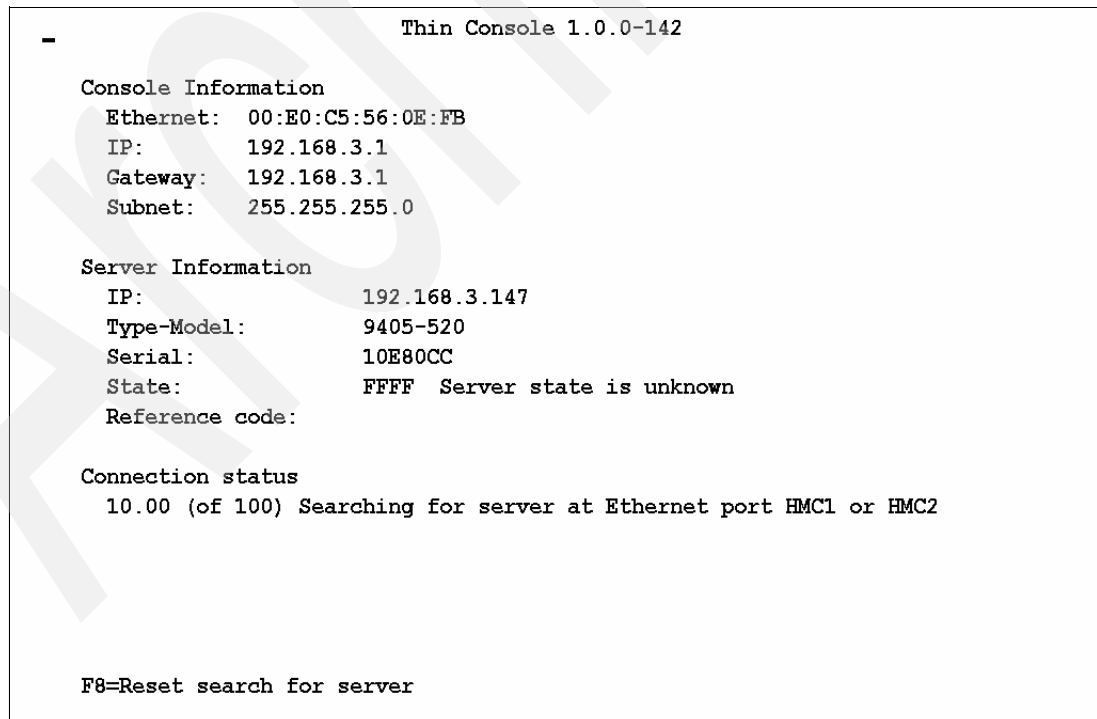

Figure 4-10 Thin Console connection status 10.nn
7. The 5250 session comes up and displays the progress of the connection status. Figure 4-10 shows connection status 10.nn.